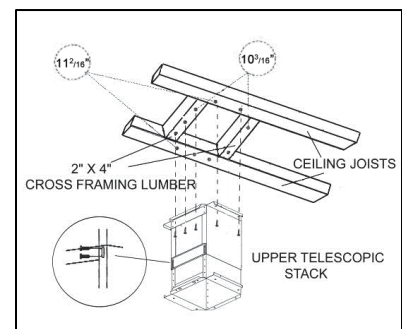

Figure 2
12. Framing should be 11-2/16" (O.C. = on center) between front and back, and 10-3/16" (O.C) between both sides of the 2" x 1" cross framing lumber. Refer to Figure 2.